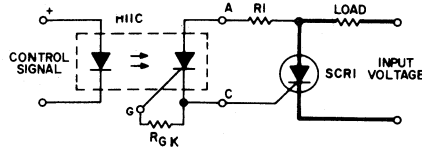

Fig. 135 - Circuit to trigger an SCR.
**High Voltage AC Switching** — A basic circuit to trigger an SCR is shown in Figure 135. This circuit has the disadvantage that blocking voltage of the photon coupler output device determines the circuit blocking voltage, irrespective of higher main SCR capability.